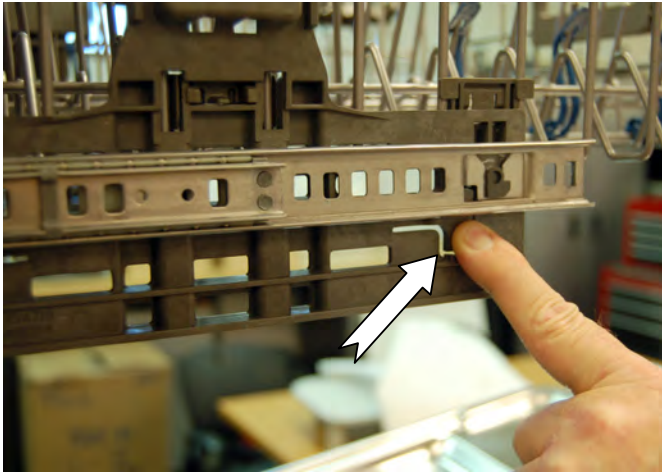

Figure 1
2. On one side, press the tab on the track in and pull up the front end of the rack out of the track. See figures 1 & 2.